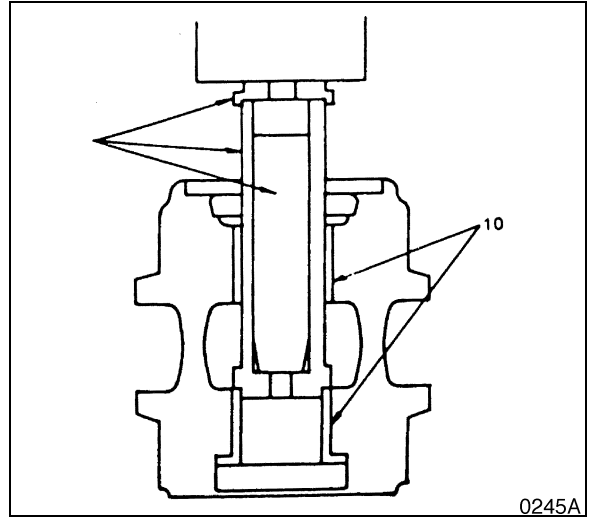

Figure 44
5. Separate the bushing (10, Figure 44) from the roller with a press and special tool (ST-1919).